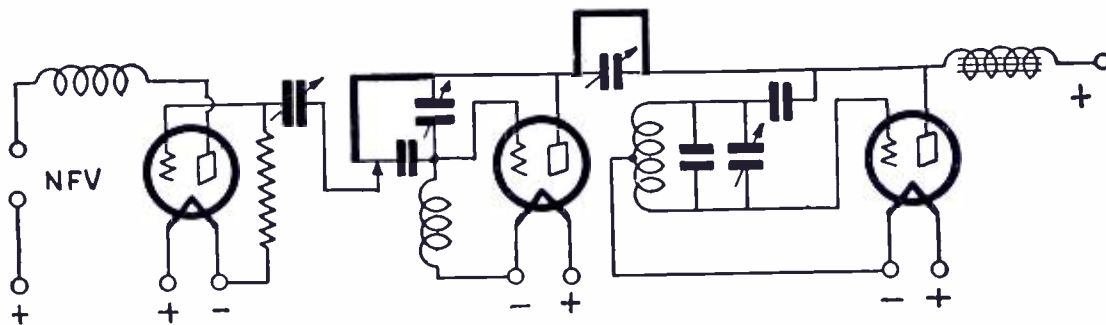

Fig. 1—Diagram of tuned plate receiving circuit described in text.
E. Busse had also directed attention to the tuned plate circuit, the receiving sets having been rebuilt according to the diagram in Fig. 1. The tuned plate circuit overcomes any unwillingness of the receiver to oscillate—such as has happened frequently in the past. Adjusting the receiver is in no way difficult; even with waves of about two meters, the receiver has proved a brilliant success. The rheostat of the receiver tube is put on the panel. The coils are set at 90 degrees—not to close—with respect to one another. Good neutralizing condensers were used to tune the plate intermediate circuit. Fig. 2 to 5 give views of the two receivers used.